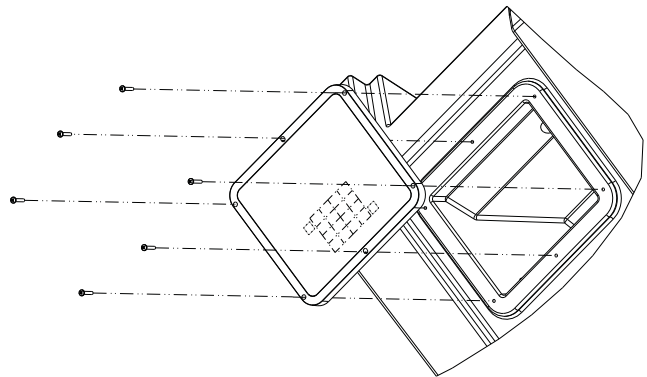

Figure 1: Control panel module removal/replacement
2. Remove the mounting screws (see Figure 1).